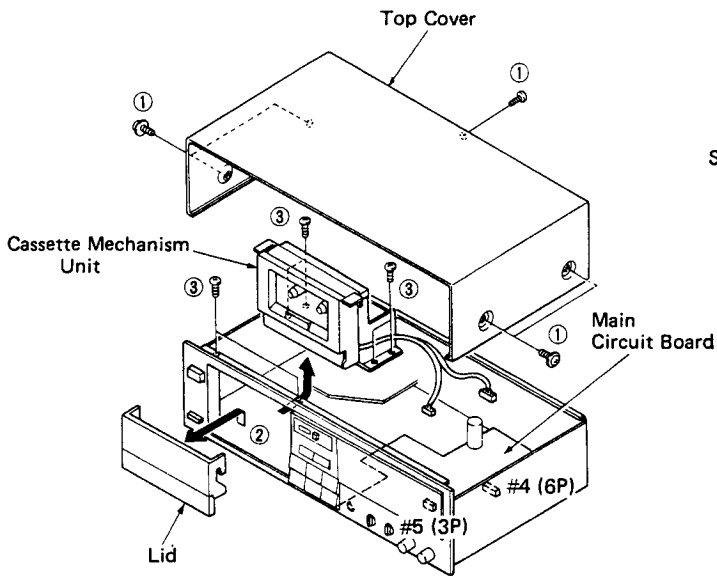

Fig. 1
Remove 5 screws ( ① ) in Fig. 1.
- Remove the Lid ( ② ) in Fig. 1.
- Remove 6 screws ( ③ ) in Fig. 1 and then pull off the mechanism unit to the back side gently.